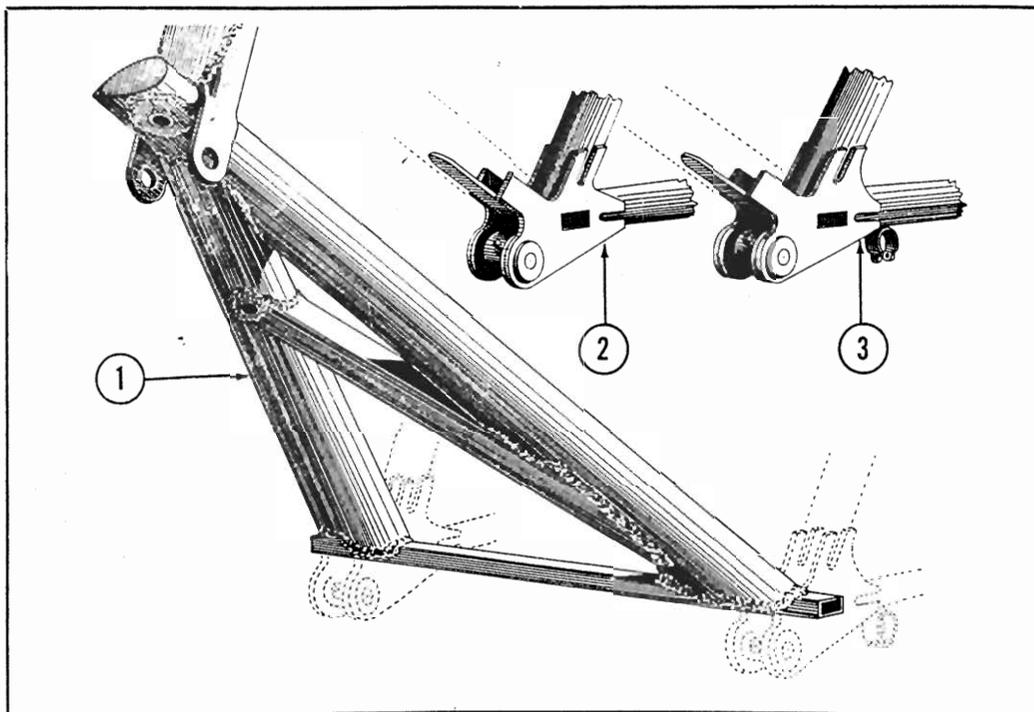

Figure 3-15—Tripod Assembly
**TRIPOD ASSEMBLY.** The tripod assembly is made of 4130 chrome molybdenum steel tube, two of the bottom three members being streamline shaped tubes and the third member being rectangular. (See figure 3-15.)